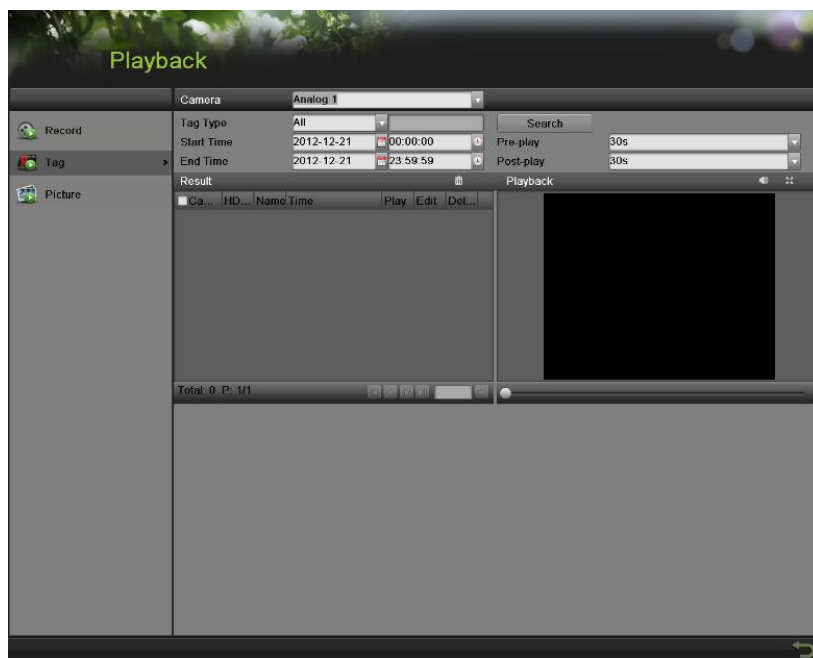

Figure 54 Tag Playback Interface
1. Enter the Tag interface, shown in Figure 54 by going to Menu > Playback > Tag.